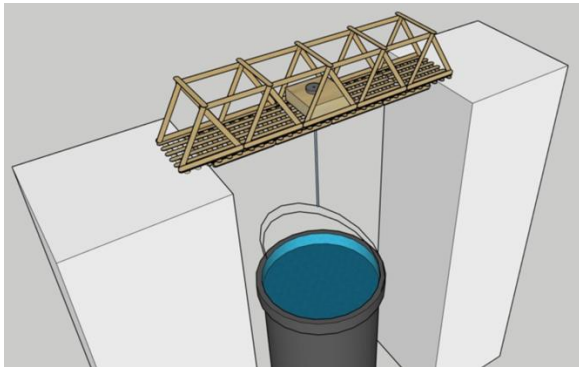

Figure 9 - Loading Configuration
- Bridges must accommodate the loading apparatus, which will consist of a 3"x 3" plate applied to the roadway which will be pulled by bucket filled with sand. See Figure 9.